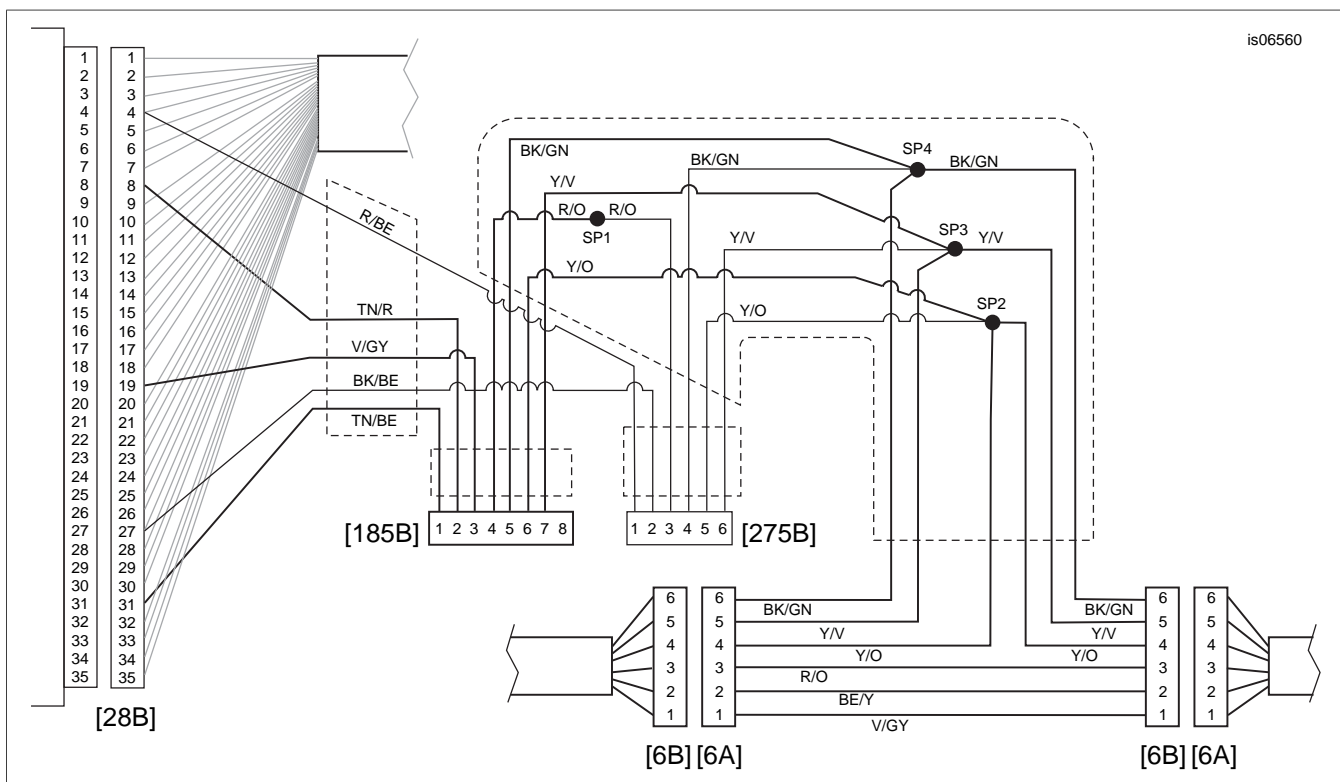
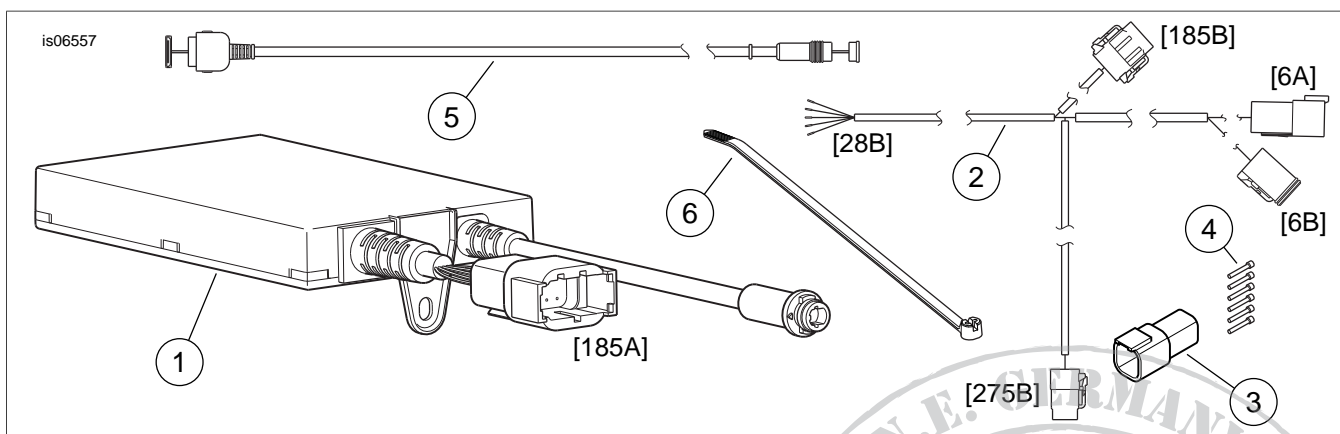

Figure 3. Wiring Diagram, iPod/Navigation Interface Module
Figure 4. Service Parts, iPod Interface Module
See Figure 4 and Table 1.
**Models WITH 35-Way connector on back of radio:** See Figure 3 and Figure 4. Unplug the 35-way connector [28B] from the back of the radio. Follow instructions in the service manual appendix to remove the seal pins from cavities 8, 19 and 31.